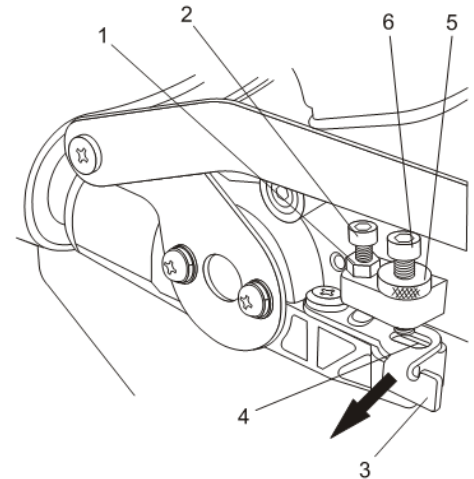

Fig. 15
2. Push the 45° pivoting stop (3) toward the cutting head so the slot (4) aligns with the hole in the casting (Fig. 15).
3. Loosen the 0° depth stop lock nut (1). Use a 10 mm wrench (not included) to turn the lock nut counter clockwise.
4. Back out the 0° depth stop screw (2) until it no longer extends below the threaded casting. Use a 5 mm hex key (not included).